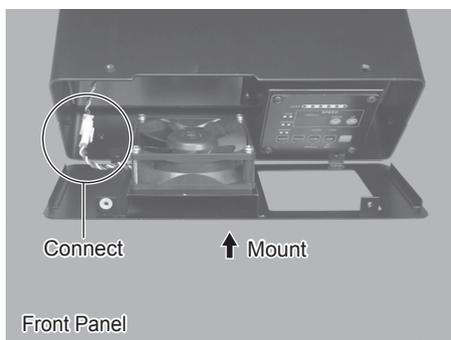

Fig. 48
- (11) Connect the FAN Cord Connector (Fig. 48).
- (12) Re-attach the Front Panel to the CONTROLLER's Main Body (Fig. 48).